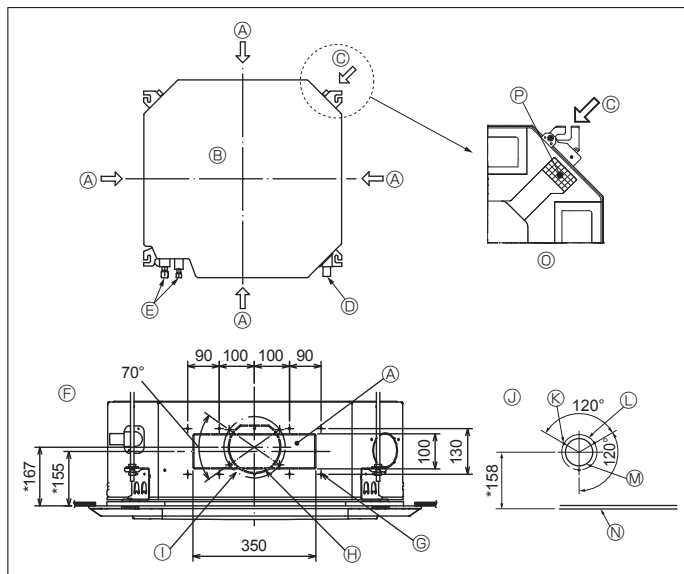

Fig. 3-3
3.3. Branch duct hole and fresh air intake hole (Fig. 3-3)
At the time of installation, use the duct holes (cut out) located at the positions shown in Fig. 3-3, as and when required.